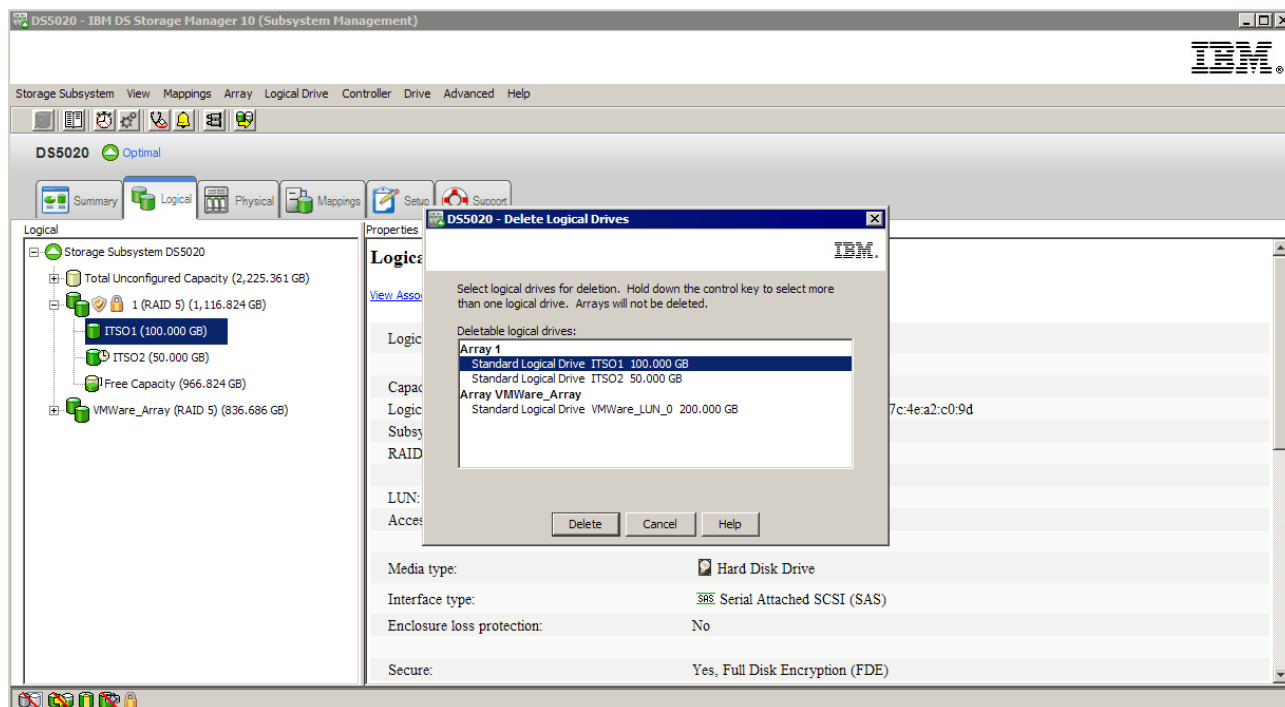

Figure 3-116 Selecting all logical drives to be deleted
2. This will open the Delete LUN selection screen as shown in Figure 3-116. Select the logical drive or drives you wish to delete.